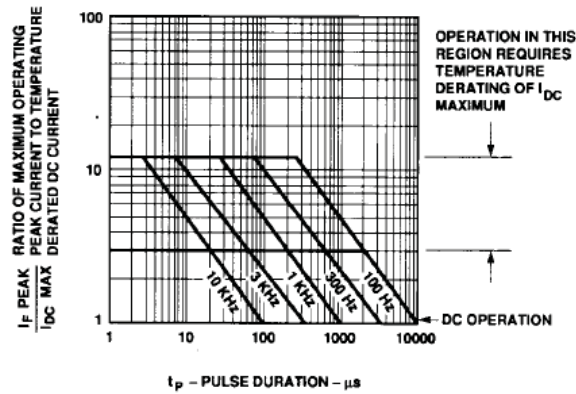

Figure 8. Maximum Tolerable Peak Current vs. Pulse Duration – Green.
- See Figure 8 to establish pulsed conditions.